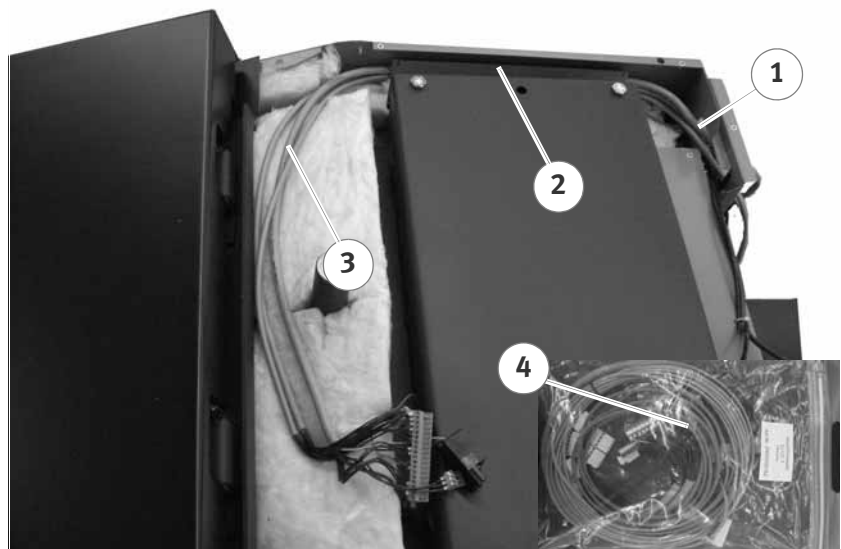

Figure 4/7 - Mounting the HDG Lambda Control 1
7. Lay the cable tree (3) as shown in Figure 4/7 - Mounting the HDG Lambda Control 1, in the cable channel (2) and the cable inlet (1).